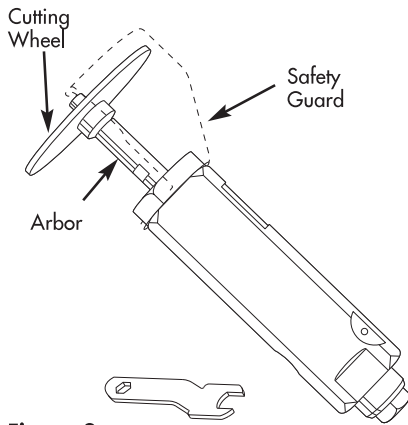

Figure 2
- Center new cut-off wheel on arbor (See Figure 2). Make sure cut-off wheel is rated for RPM of air tool. **Securely tighten cap screw.**